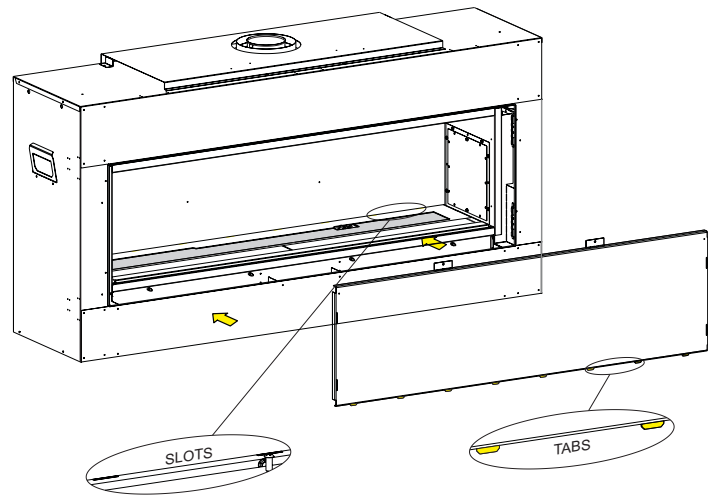

Figure 1
2. Install the Rear Panel by aligning the eight tabs on the bottom edge with the eight slots in the back rear of the firebox. **NOTE:** The eight slots are located behind the burner cover plate. **See Figure 1.**